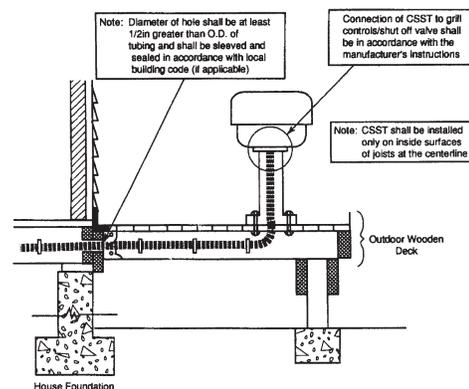

Figure: 4-20
2. Permanently mounted grills located on decks shall be connected with the **CounterStrike**® system as shown in Figure: 4-20 and in accordance with this guide. The outdoor portion of the piping shall be supported against the side of any of the inside deck joists. If the elevation of the deck is below the top of the foundation, any exposed piping shall be protected using water-tight non-metallic conduit.
3. Permanently mounted lights located on decks shall be connected to the piping system the same as permanently mounted grills shown in Figure: 4-20 and in accordance with the manufacturer's instructions.